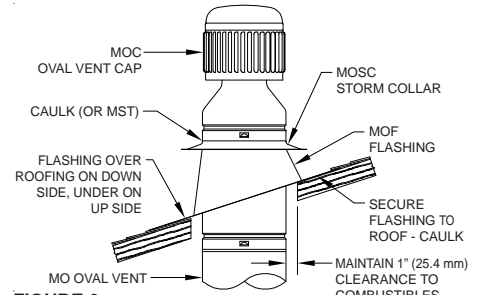

FIGURE 6
4. If your installation terminates as oval, the Oval Flashing (MOF) and Oval Storm Collar (MOSC) are shown in **FIGURE 6**. An Oval Vent Cap (MOC) completes the installation.